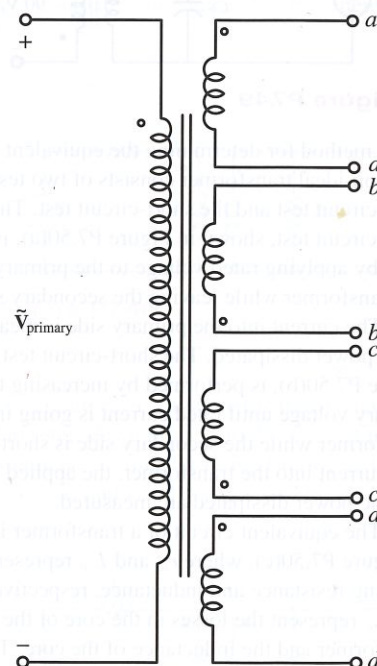

Figure P7.55
7.55 The transformer shown in Figure P7.55 has several sets of windings on the secondary side. The windings have the following turns ratios: